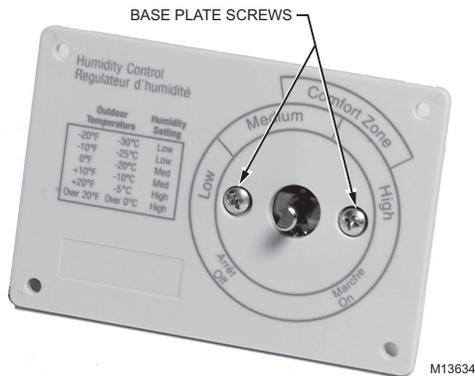

Fig. 44. Removing Control Assembly from Base Plate.
6. Unscrew the two Base Plate screws and remove the Control Assembly. See Fig. 44.